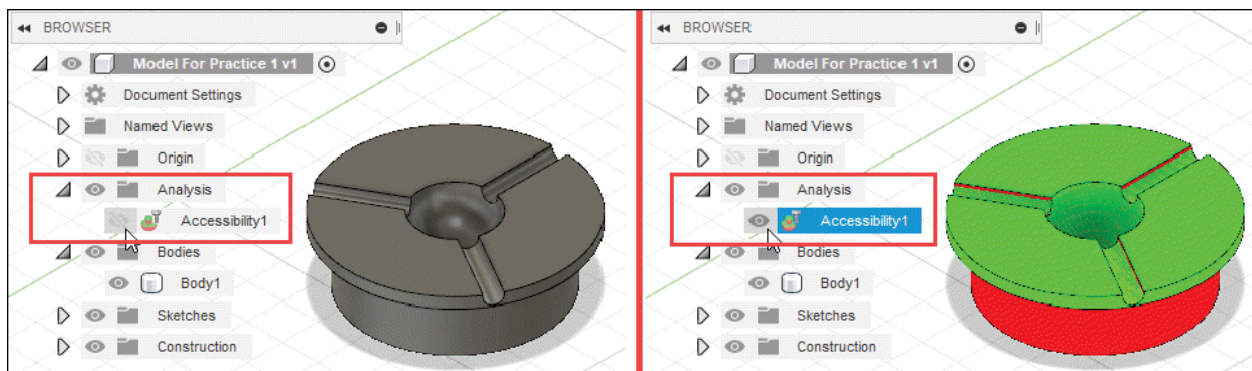

Figure-62. Visibility of analysis
- The visibility of this analysis can be controlled by expanding the **Analysis** folder in the **BROWSER** and clicking on the eye button to view or hide the analysis; refer to Figure-62.